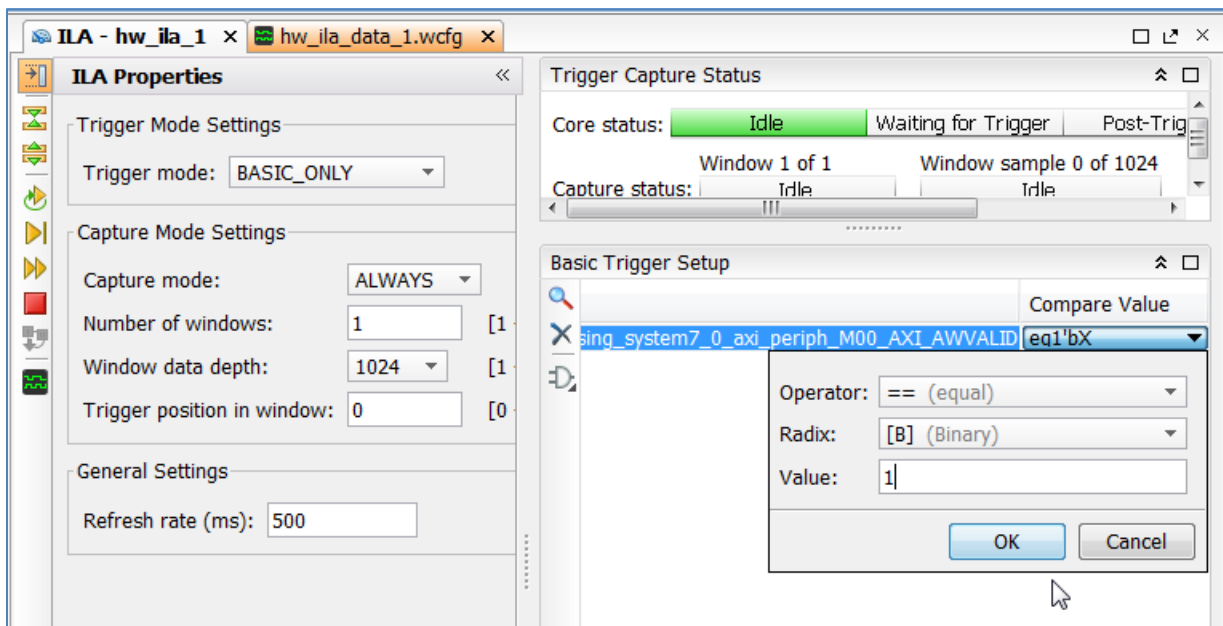

Figure 47: ILA Properties Window
- Click the **Compare Value** column of the ***WVALID** row, as shown in FIGURE 47.